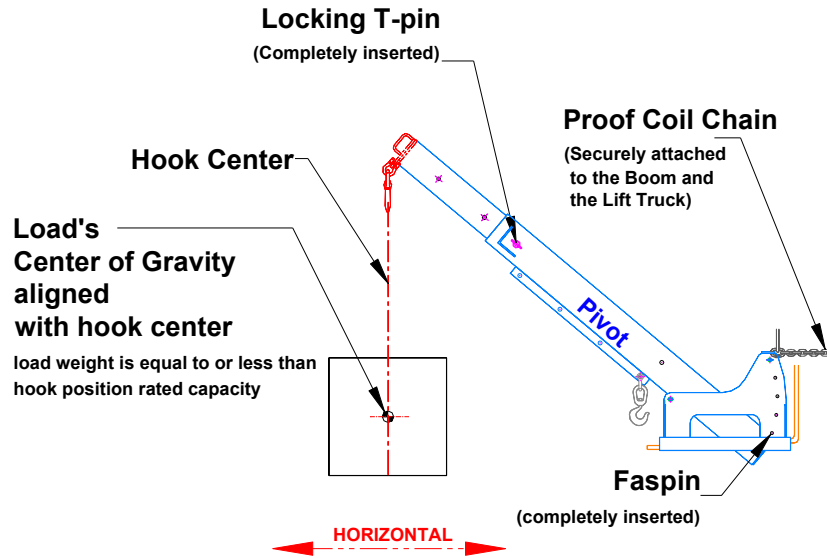

Figure 15
- Perform a test lift of several inches, verifying load security and balance; verify the load is level and horizontal, see figure 15.
- Adjust the load until it is parallel to horizontal, see figure 15.